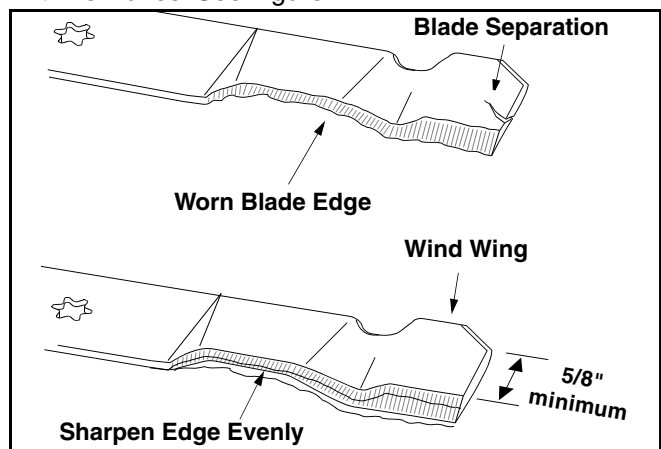

Figure 24
- To properly sharpen the cutting blades, remove equal amounts of metal from both ends of the blades along the cutting edges, parallel to the trailing edge, at a 25° to 30° angle. See Figure 24.
IMPORTANT: If the cutting edge of the blade has already been sharpened to within 5/8" of the wind wing radius, or if any metal separation is present, replace the blades with new ones. See Figure 24.